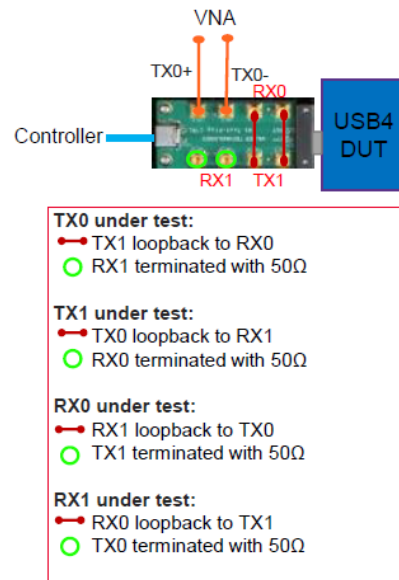

Figure 161 SMP test fixture - Tx/Rx lane switching
- 8 In case of SMP test fixture, Tx/Rx lane under test can be switched as shown in Figure 161.